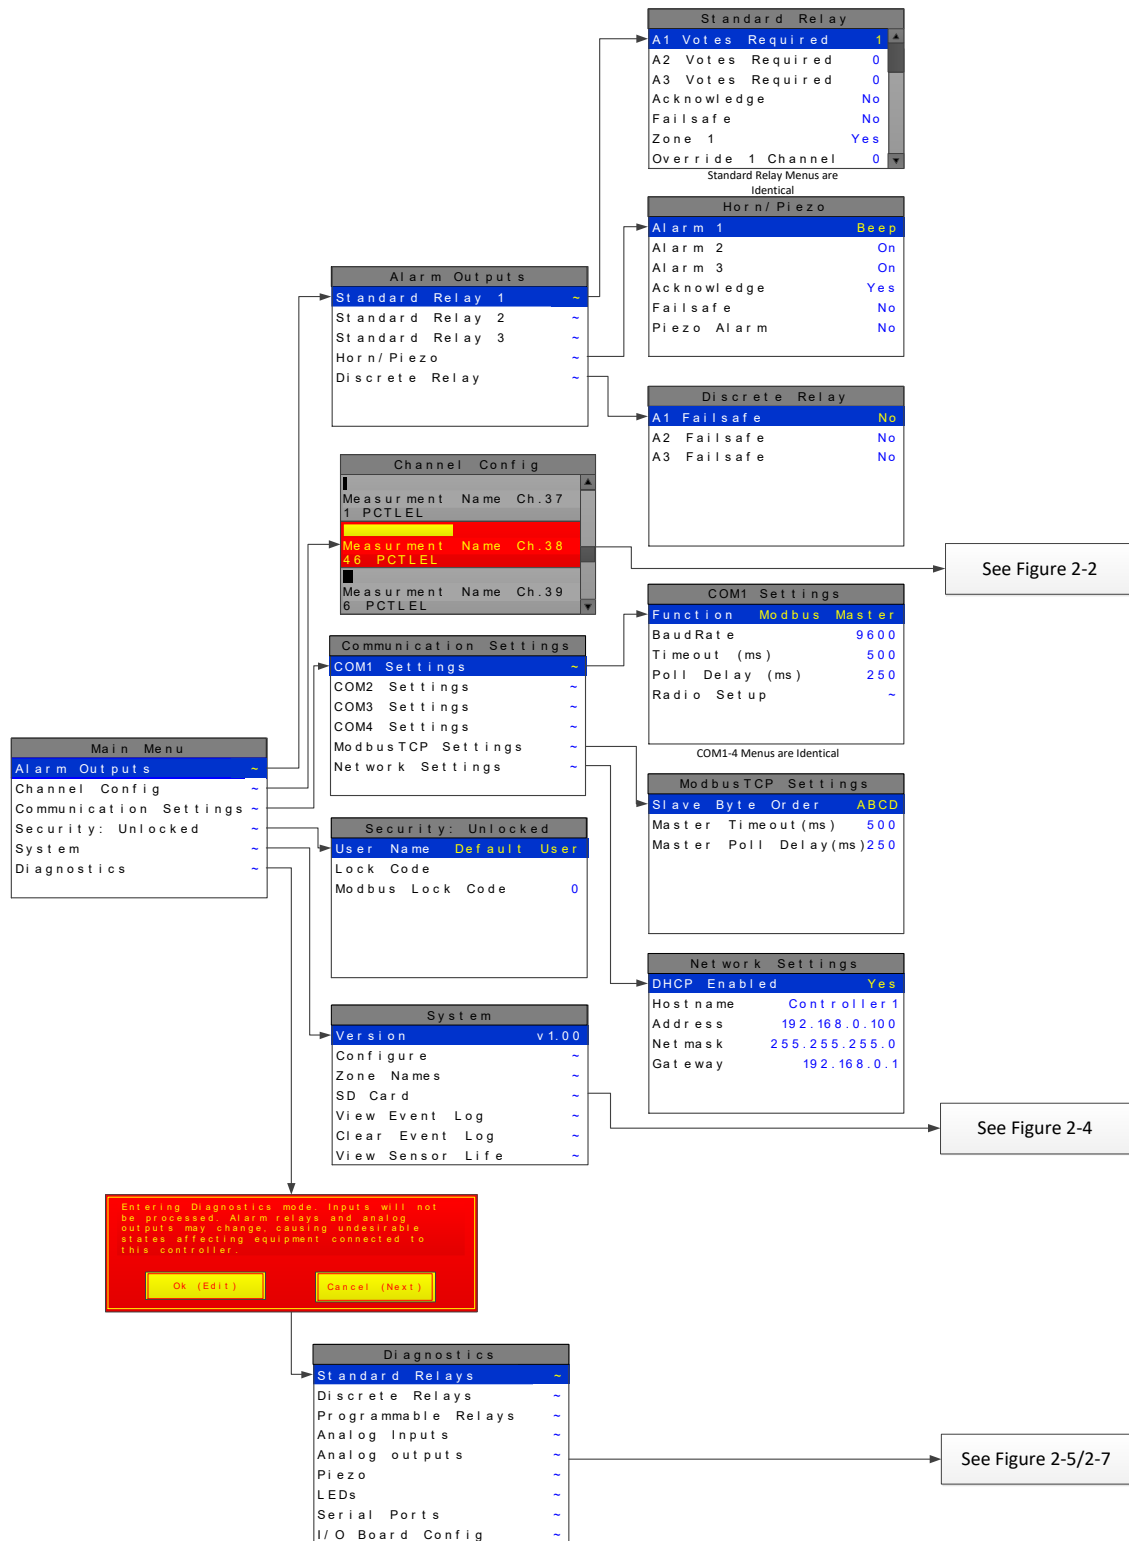

Figure 2-1
*Setup* mode may be exited manually by pressing  or automatically when no keys are pressed for 5 minutes. Alarm relays and front panel alarm LED indicators remain active during the *Setup* mode. A Security menu offers a password feature to prevent tampering with GM 64 parameters. See Figure 2-1 – Figure 2-7 for a complete GM 64 menu tree layout.
Once the correct channel is selected  brings you to that channel's configuration menu, shown on right below. These items affect only the specific channel selected. *System* specific variables are accessed through the **MAIN MENU** shown in Figure 2-1.